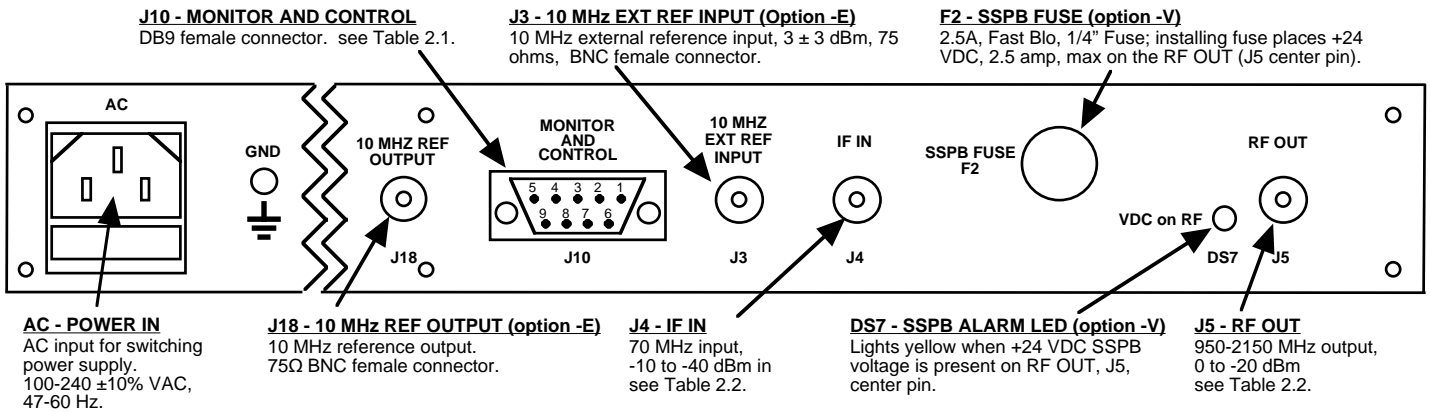

FIGURE 2.1 2015-14 Rear Panel I/O's
2.2 Rear Panel Input/Output Signals - Figure 2.1 shows the input and output connectors on the rear panel.
1. Connect a -10 dBm to -40 dBm signal to IF In, J4 (Figure 2.1)
8. Option -V only - To insert SSPB +24 VDC on the RF center pin install 2.5A fast blo fuse in F2 and check that DS7 lights yellow (Figure 2.1)